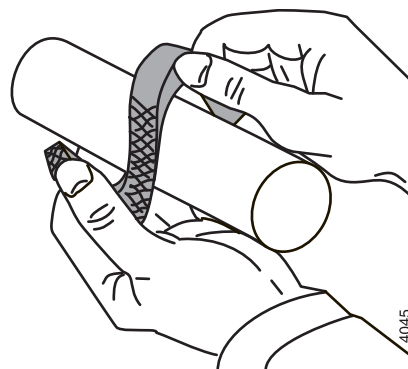

Figure 12: Bending open of a stuffing box packing ring.
- 5 Bend open the first packing ring as shown in figure 12 and fit it around the shaft. Thoroughly press the ring home using a suitable piece of halved tube.
- 1 Fit the 5 packing rings. Place the packing rings with the openings offset. The packing rings may only be bent open axially, see figure 12.